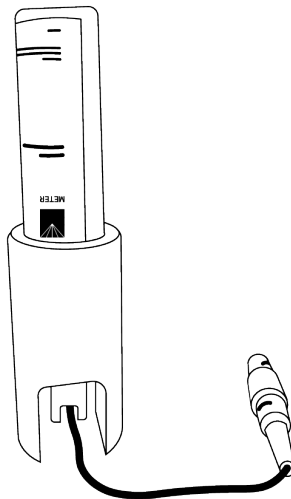

Figure 47 Turn over glycerin vial with adapter attached
6. Turn the glycerin vial with adapter attached upside down (Figure 47).